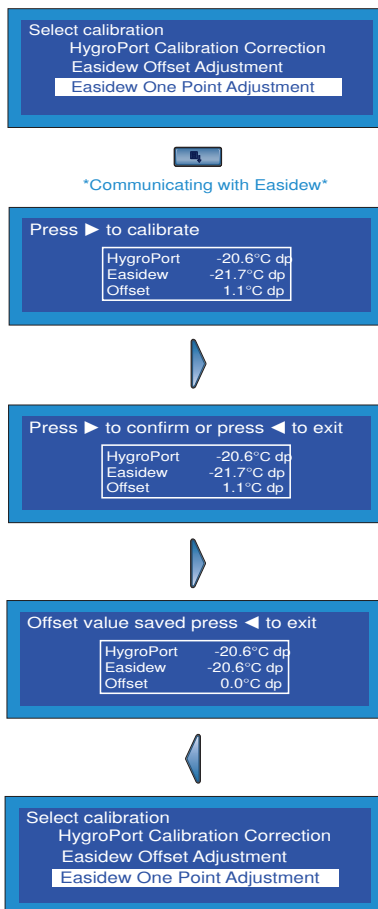

Figure 6.6 - Easidew single point adjustment
6.3.3 Easidew One Point adjustment (Figure 6.6)
The offset adjustment screen is now displayed which reports the size of the offset (1.1°C dp) between the readings of the HygroPort and the external transmitter at the applied dewpoint e.g. as shown in Figure 6.6.